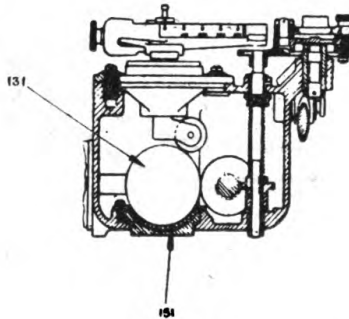

FIGURE 9.
**Caution:** Use care not to deform any parts while removing the course indicator assembly. It must be removed slowly to prevent the spring-backed pressure roller 132 from projecting the resolving ball from the case and scattering the many small ball bearings 151, figure 9, on which it revolves.